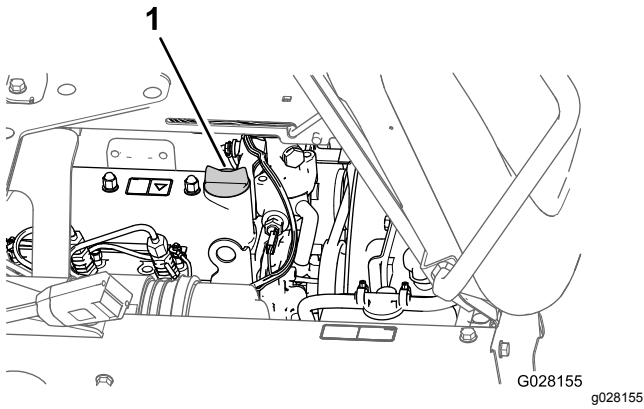

Figure 70
3. If the oil level is low, remove the filler cap from the valve cover and pour oil into the filler neck until the oil level is up to the Full mark on the dipstick (Figure 70).